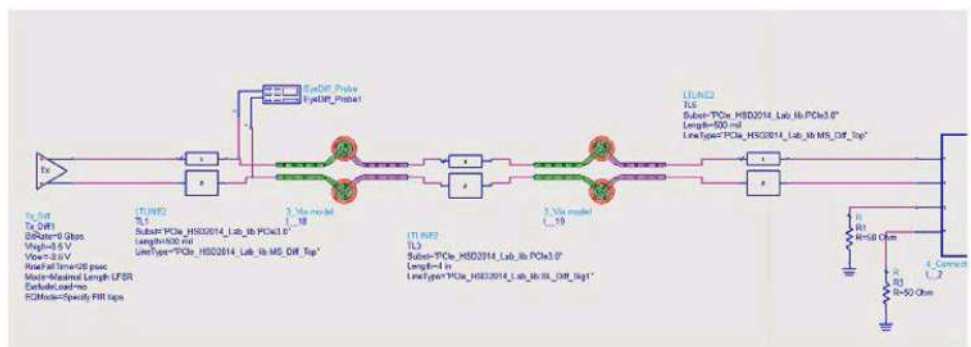

Figure 8. PCIe Gen 3 compliance test bench schematic of the transmitter side.
**Design simulation software,** Keysight’s Advanced Design System (ADS), enables end-to-end simulation of the physical layer (transmit, receive, channel, etc.) and leverages a unique position as a vendor of leading electronic measurement equipment and a provider of design simulation software. The user can start with an example schematic design from the W2352EP PCI Express Compliance Test Bench within ADS, and customize it to reflect their desired IP-block choice, channel design and connector selections. The PCI Express Compliance Test Bench writes out the simulated electrical and timing waveforms to file, in a format that Keysight’s N5393D PCIe electrical performance validation and compliance software uses for offline or stored data. ADS and the W2352EP PCI Express (PCIe) Compliance Test Bench (Figure 8) help solve the problem of simulation-measurement correlation. If the simulation passes, designers can fabricate with confidence. When the prototype comes back from fab it can be plugged into the physical test bench for measurement using the exact same application to determine electrical and timing compliance. Where discrepancy occurs, it can be limited to the space between simulation and physical creation because the compliance application is identical in both cases.